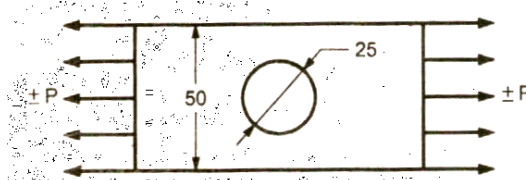

Fig. No. 4.b
- b) A plate made of plain carbon steel 20C8 (Sut = 440 N / mm²) is shown in fig. no 4.b. The theoretical stress concentration factor and notch sensitivity are 2.50 and 0.8 respectively. The surface finish factor, size factor and reliability are 0.67, 0.85 and 0.897 respectively. The plate thickness is 30 mm. If the required factor of safety is 2.0, Determine the maximum completely reversed axial force can take for infinite life. Take $K_e = 1.0$ and axial force subjected on the plate at temperature 20°C. [06]